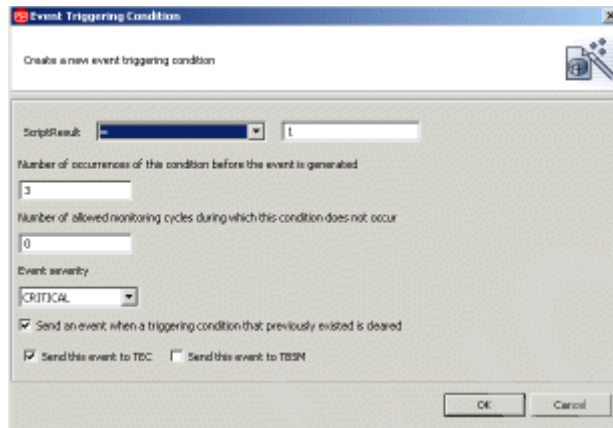

Figure 9-43 Event Triggering Condition window
13. The Event Triggering Condition window displays. Select the equal sign from the ScriptResult menu, enter 1 in the ScriptResult text field, enter 3 in the Number of occurrences of this condition before the event is generated text field, and disable Send this event to TBSM, as shown in Figure 9-43.